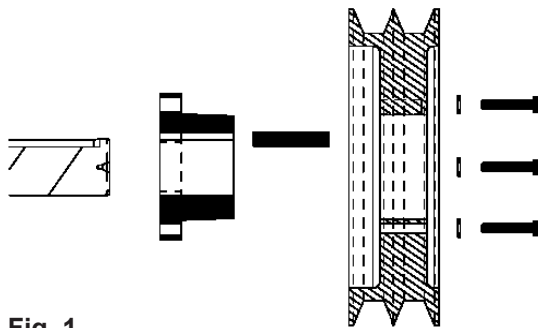

Fig. 1
2. See **Standard** mounting assembly - Figure 1.